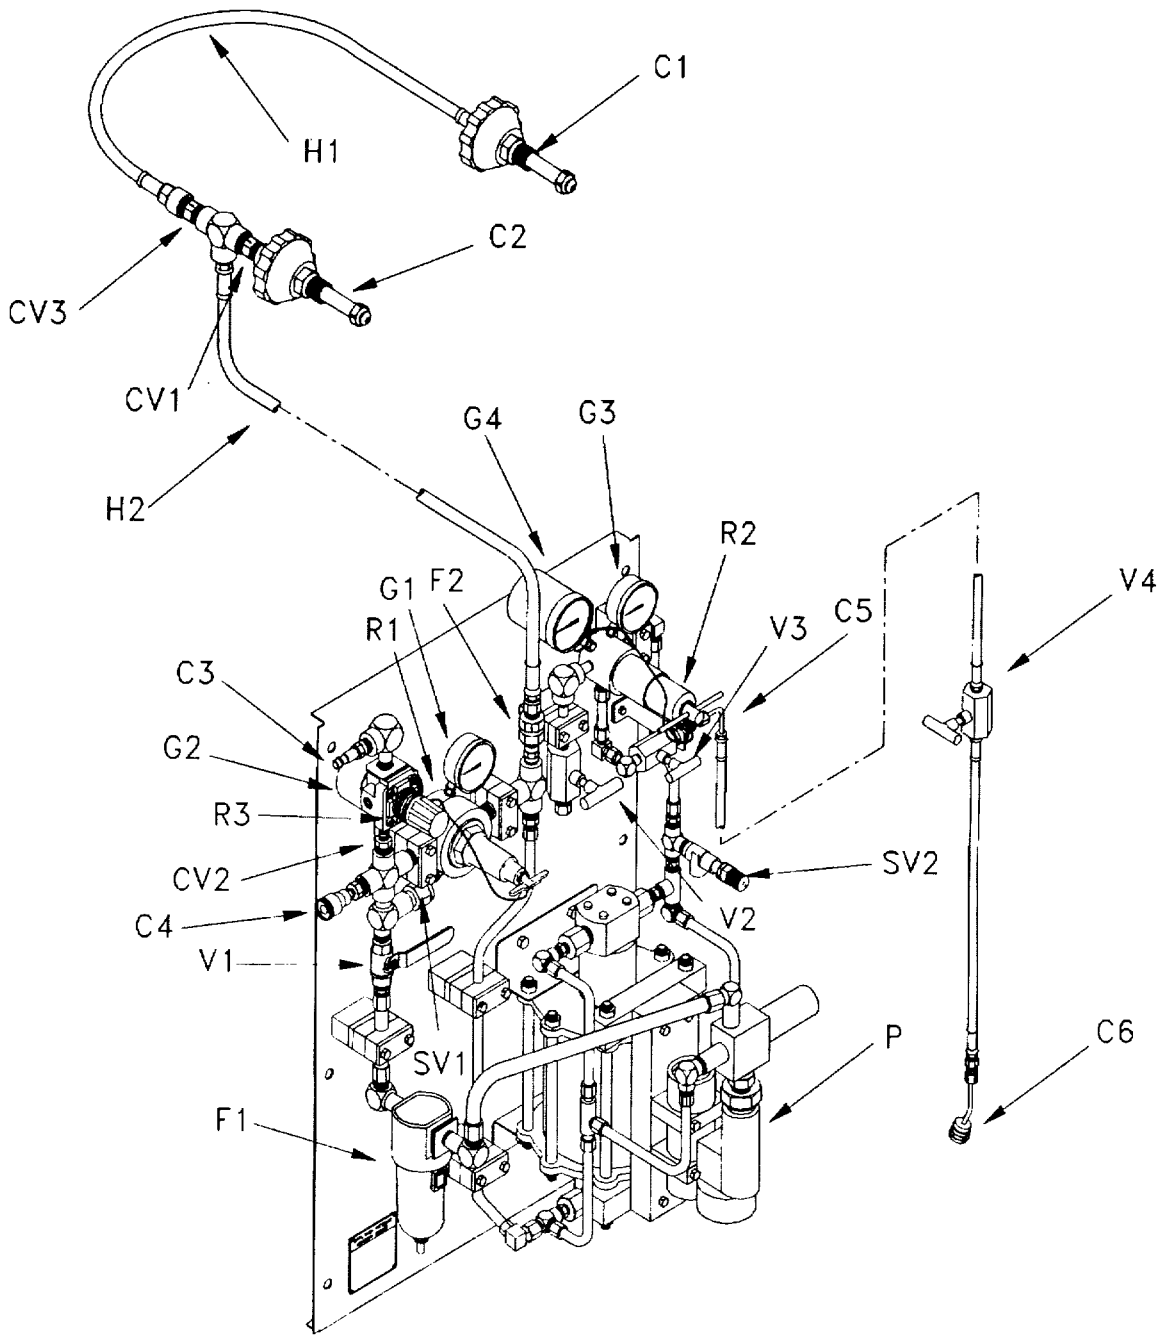
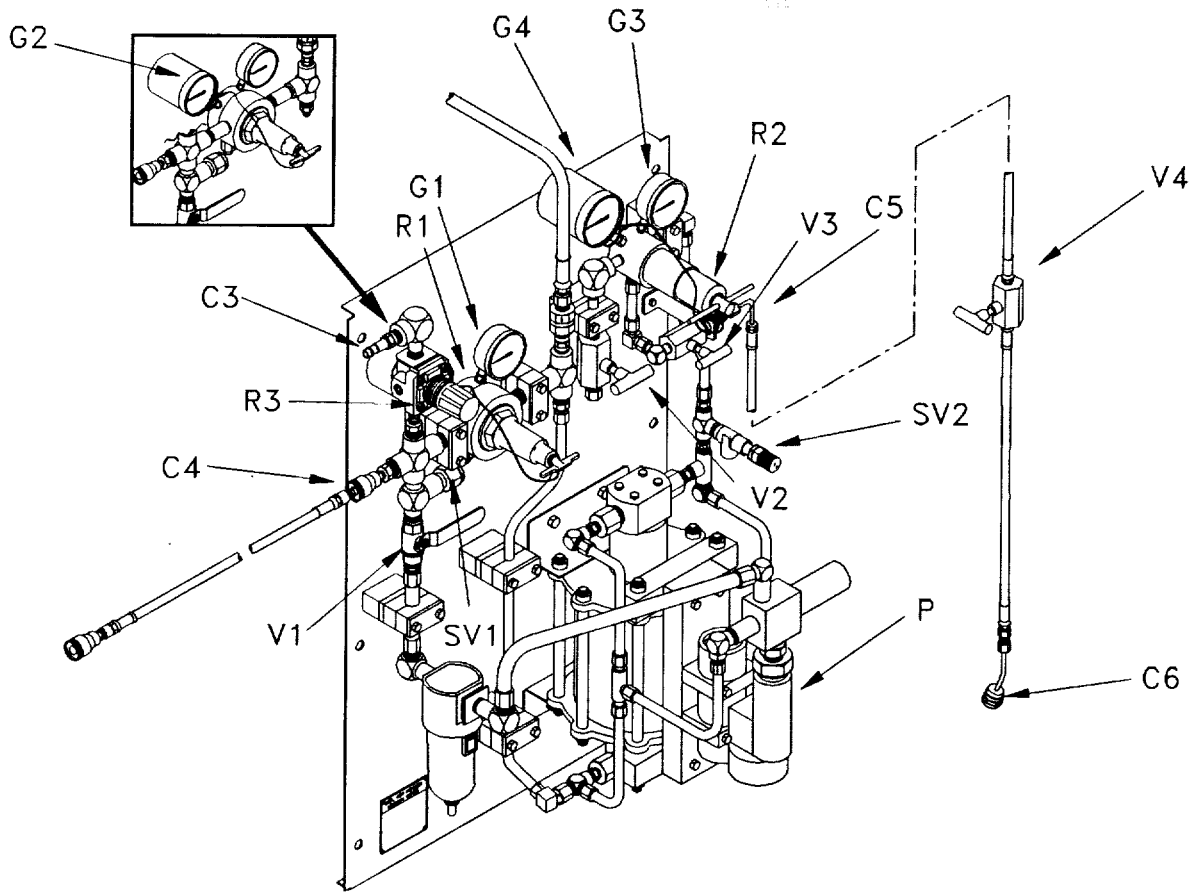

Figure 1-4. Component Location Diagram for the High Pressure Nitrogen Servicing Cart
Figure 2-1. Controls and Indicators of the Booster Panel Assembly
Refer to Figure 1-3, Schematic of the High Pressure Nitrogen Servicing Cart for the following discussion of the principles of operation. The corresponding physical location of the designated component is shown in Figure 1-4.
General. Refer to Figure 2-1. This section describes the various controls and indicators provided for the proper operation of the equipment. These component designators correspond to those described in Figure 1-3 Schematic Diagram and Figure 1-4 Component Location Diagram.
- d. Leave the tank valve(s) completely closed until ready for use. Refer to Figure 2-1. Before any test or operation of the unit, verify that the following controls are properly set:
2-6 SETTING THE HIGH PRESSURE RELIEF VALVE (See Fig. 2-1)
2-7. SHUTDOWN PROCEDURE (See Fig. 2-1)
2-8 LEAK CHECK AND CONFIDENCE TEST PROCEDURE (See Fig. 2-1)**WARNING**